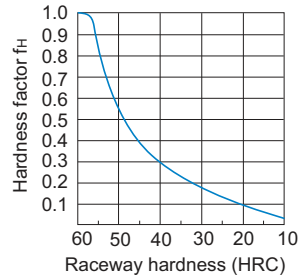

Fig.1 Hardness Factor ( $f_H$ )
- $f_H$  : Hardness factor (see Fig.1 **A11-6**)